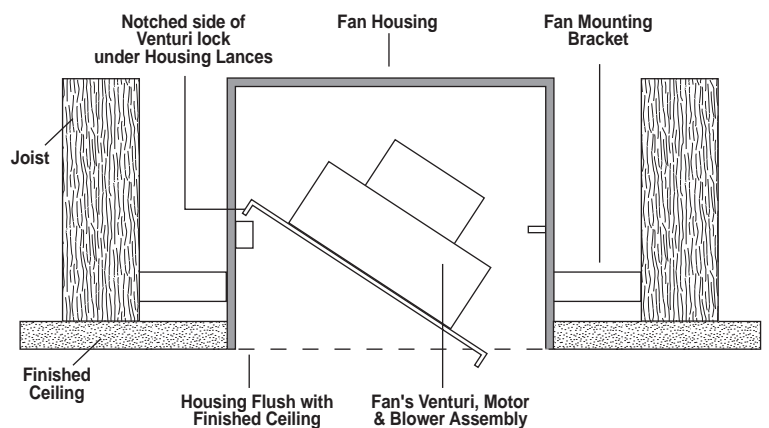

Fig. 1
2. Insert the venturi (with motor and blower housing factory mounted) into the housing at approximately a 45° angle, with the notched side of the venturi down. As you are installing the venturi, plug the motor into the receptacle. The notched side of the venturi should be locked under the lances in the housing (fig. 1).